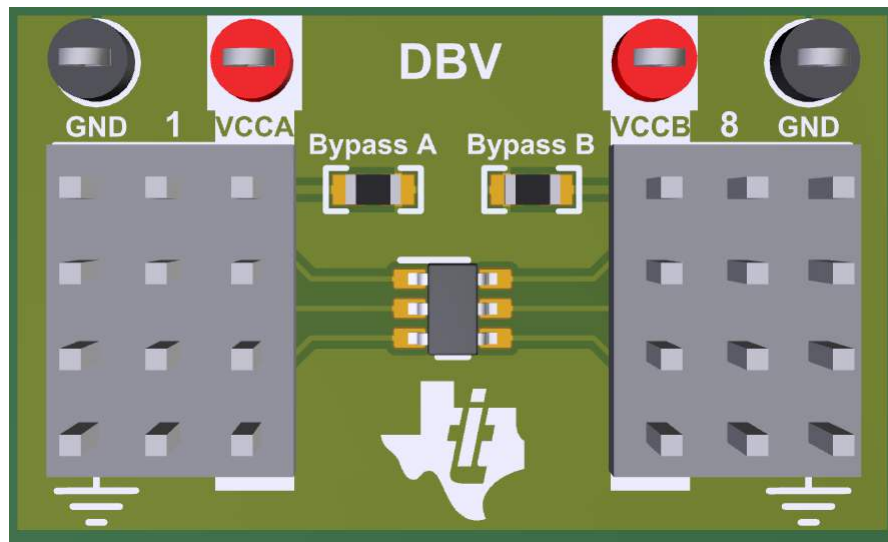

Figure 4. Fully Populated Section
- Interface with device pins. The kit includes twelve 4-pin headers and four supply test points which will allow the user to fully populate two sections. An example of this, with the addition of bypass capacitors for the supplies, can be seen in Figure 4